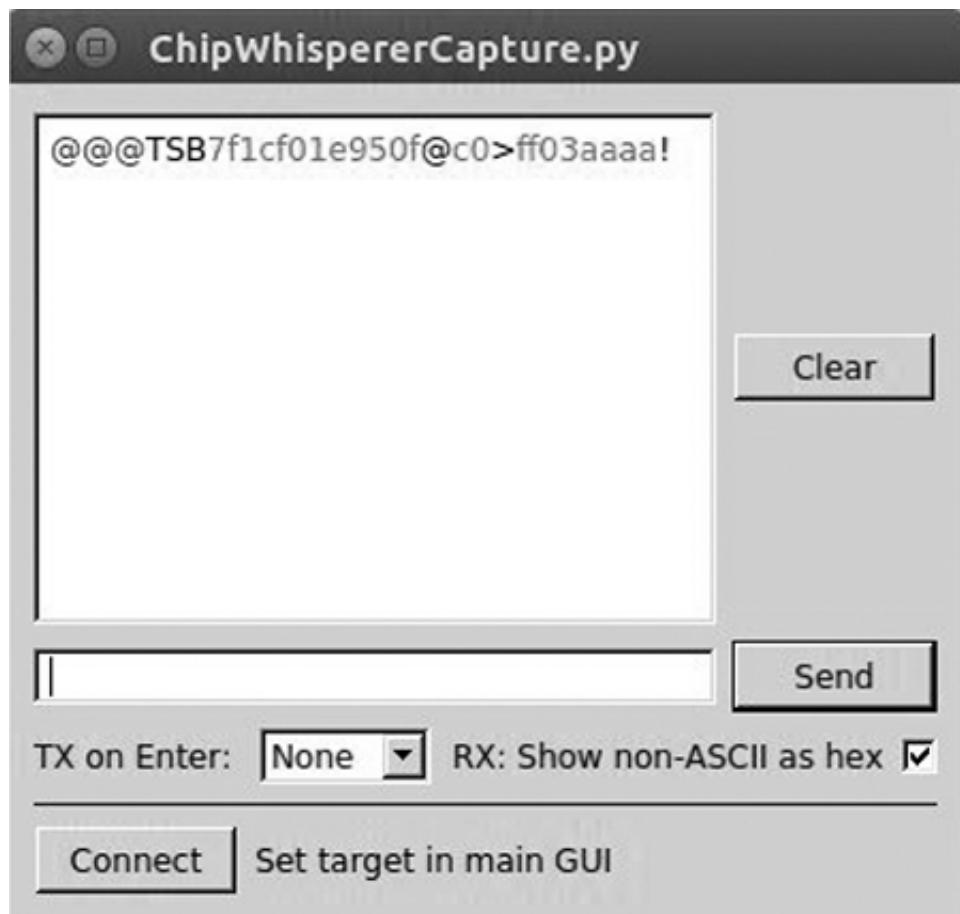

Figure 8-12: ChipWhisperer serial terminal
4. The ChipWhisperer comes with a simple serial terminal interface. Choose **Tools > Open Terminal** to open it. You should see a terminal like the one shown in Figure 8-12.
5. Set TX on Enter at the bottom of the terminal to **None**, and check the box that says **RX: Show non-ASCII as hex** (see Figure 8-12). Now click **Connect** to enable your text areas.
6. Enter **@@@** (TinySafeBoot's start-up password) in the text field to the left of the Send button, and click **Send**. The bootloader should start with TSB and mainly contain information about the firmware version and AVR settings. TSB is just an identifier used by TinySafeBoot, most likely its initials. The output should match that in Figure 8-12.